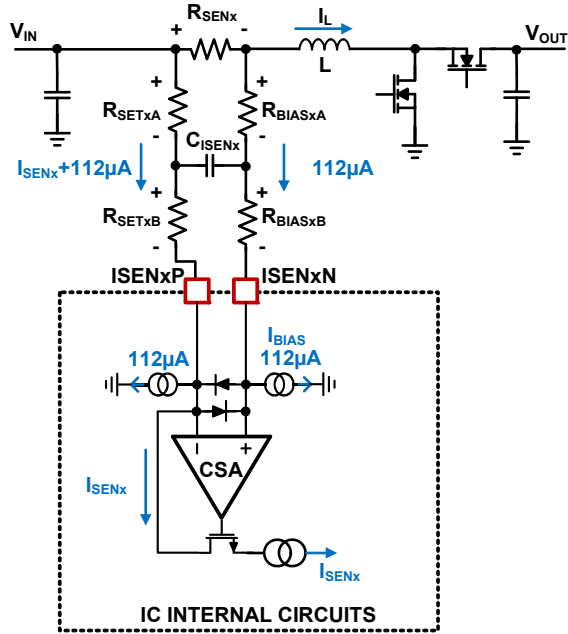

FIGURE 60. CURRENT-SENSING BLOCK DIAGRAM
The ISL78227 peak current control architecture senses the inductor current continuously for fast response. A sense resistor is placed in series with the power inductor for each phase. The ISL78227 Current Sense Amplifiers (CSA) continuously sense the respective inductor current as shown in Figure 60 on page 31 by sensing the voltage signal across the sense resistor, R_{SENx} (where “x” indicates the specific phase number and same note applied throughout this document). The sensed current for each active phase is used for peak current mode control loop, phase current balance, individual phase cycle-by-cycle peak current limiting (OC1), individual phase overcurrent fault protection (OC2_PEAK), input average Constant Current (CC) control and average overcurrent protection (OC_AVG), diode emulation, and phase drop control. The internal circuitry shown in Figure 60 represents a single phase. This circuitry is repeated for each phase.
The RC network between the R_{SENx} and $ISENxP/N$ pins as shown in Figure 60 is the recommended configuration. The $ISENxP$ pin should be connected to the positive potential of the R_{SEN_CHx} through resistor R_{SETx} , where in Figure 60, R_{SETx} is composed by R_{SETxA} plus R_{SETxB} . R_{SET} is used to set the current sense gain externally.
Because there is an $112\mu\text{A}$ bias current sinking to each of the $ISENxP$ and $ISENxN$ pins, R_{BIASx} with the same value to R_{SETx} should be placed between the $ISENxN$ pin to the low potential of the R_{SENx} , where in Figure 60, R_{BIASx} is composed by R_{BIASxA} plus R_{BIASxB} .
It is recommended to have $R_{SETxA} = R_{BIASxA}$ and $R_{SETxB} = R_{BIASxB}$, and insert a capacitor (C_{ISENx}) between them as shown in Figure 60. This will form a symmetric noise filter for the small current sense signals. The differential filtering time constant equals to $(R_{SETxA} + R_{BIASxA}) \cdot C_{ISENx}$. This time constant is typically selected in range of tens of ns depending on the actual noise levels.